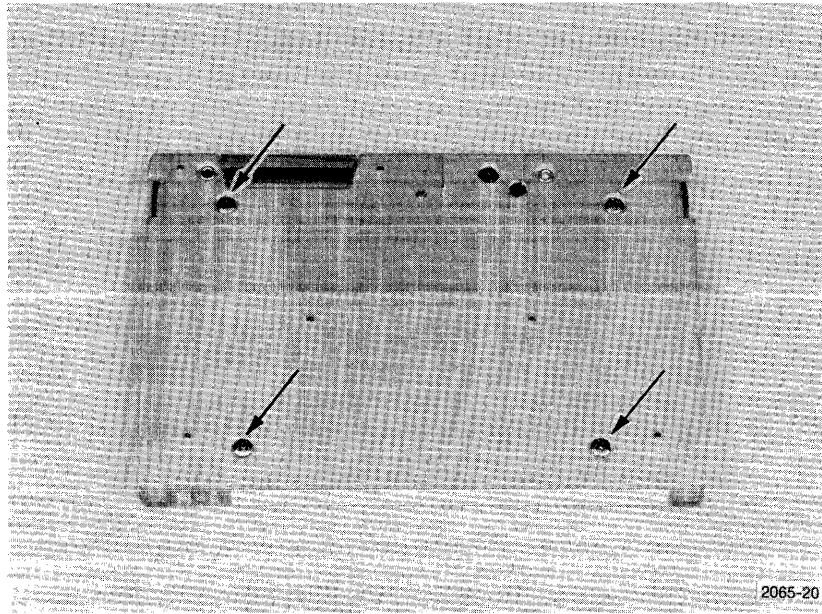

Fig. 3-2. Cartridge assembly screws.
1. Remove the four screws that attach the metal base to the plastic cover (see Figs. 3-2 and 3-3).